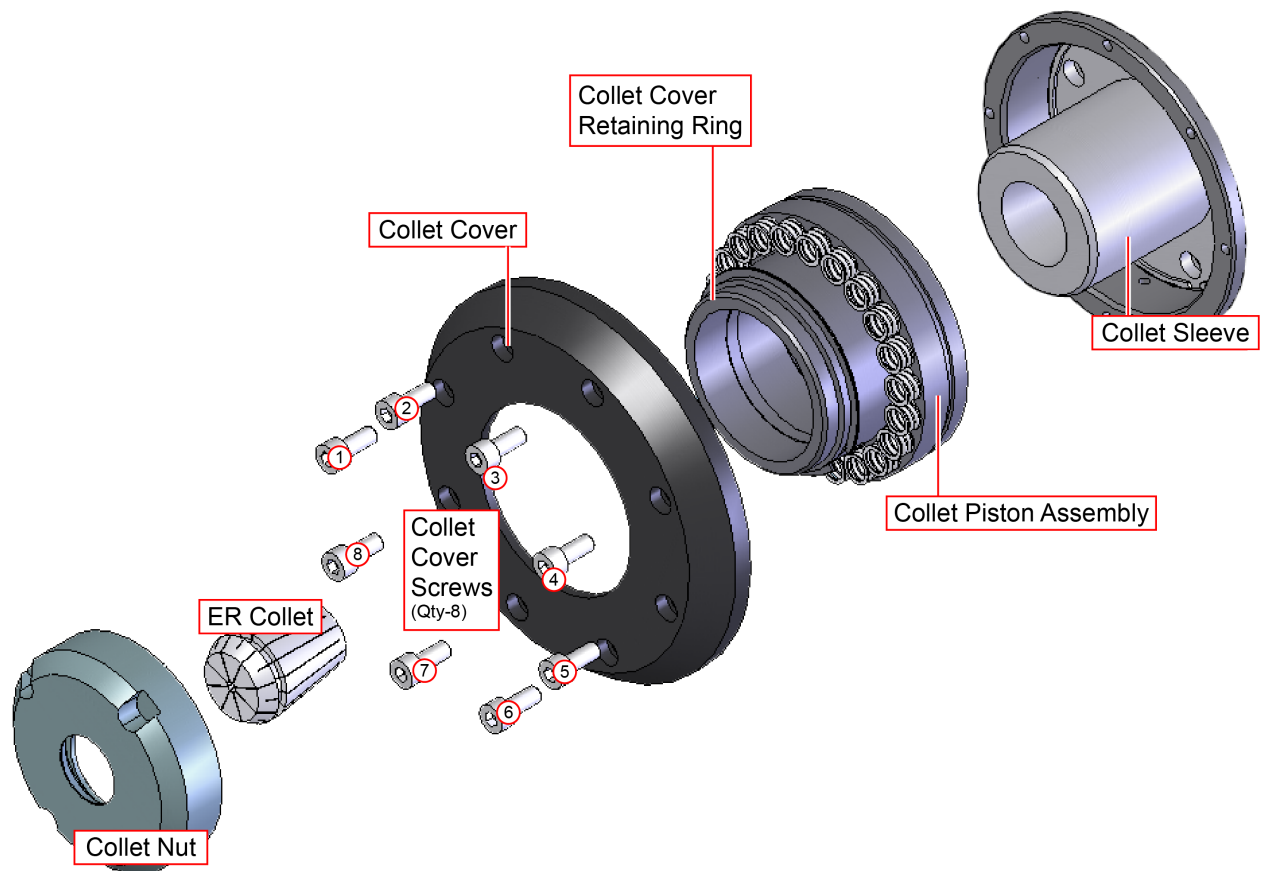

Figure 4-2: Piston Seal Change Parts
The seals on the collet piston may be replaced if a leak or excess wear becomes apparent. Figure 4-2 shows an exploded view of the assembly and includes all parts involved in the process. The procedure to change the seals is as follows.
- Step 5: Refer to Figure 4-2. Remove every other collet cover screw (i.e., screws 1, 3, 5, and 7). All screws cannot be removed at once, as the cap is under tension from several springs and will be damaged or cause bodily harm if removed without caution.